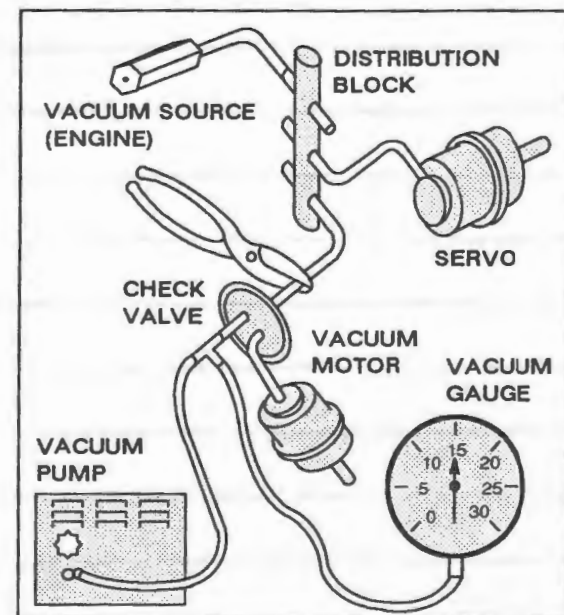

Figure 2 - Testing For Leaks In Typical Vacuum System
1. Connect Vacuum Gauge and Vacuum Pump (Figure 2) to system hose in place of tank.
3. Clamp supply hoses with needlenose pliers one at a time until vacuum stops dropping (Figure 2).